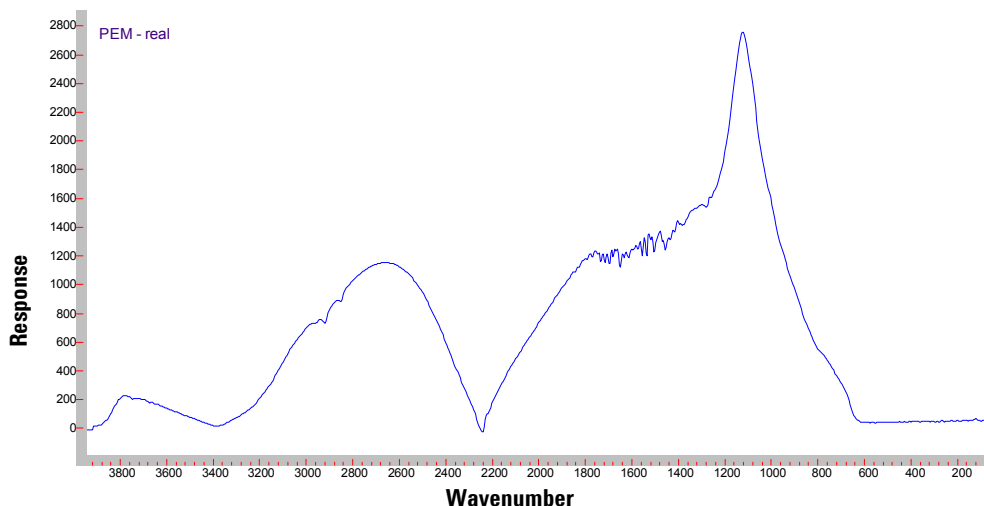

Figure 8. AC spectrum ($I_p - I_s$)
- 12** When the scan is complete, select Spectrum 1 and Spectrum 5. Go to **Transforms > Fourier Transforms**. Set Apodization Function = TRIANGULAR and set Zero Function = TRIANGULAR and set Zero Filling factor = 4 and then click OK to compute the interferograms. Spectrum 5 should look similar to Figure 8.